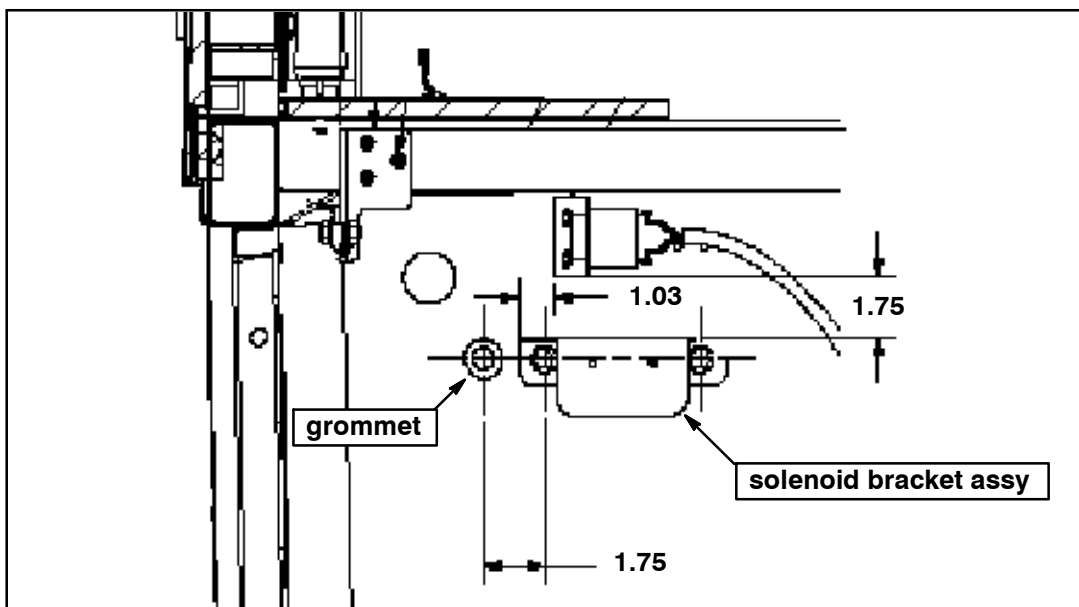

Figure 12.
15. Position the solenoid bracket assy, p/n 03-31-3265, on the side panel of the lift access compartment as per dimensions shown in Figure 12 (refer to Figures 12 and 13).
16. Using a 0.34 inch drill bit and the two (2) holes in the solenoid bracket assy as a template, drill two (2) mounting holes. Using capscrew, p/n 19-1-16, fender washer, p/n19-2-187 and locknut, p/n 19-3-183, securely mount the solenoid bracket assy to compartment wall.
17. Using a 0.87 inch drill bit, drill a hole as per dimensions shown in Figure 12. Install grommet, p/n 19-12-20, in drilled hole (refer to Figures 12 and 13).